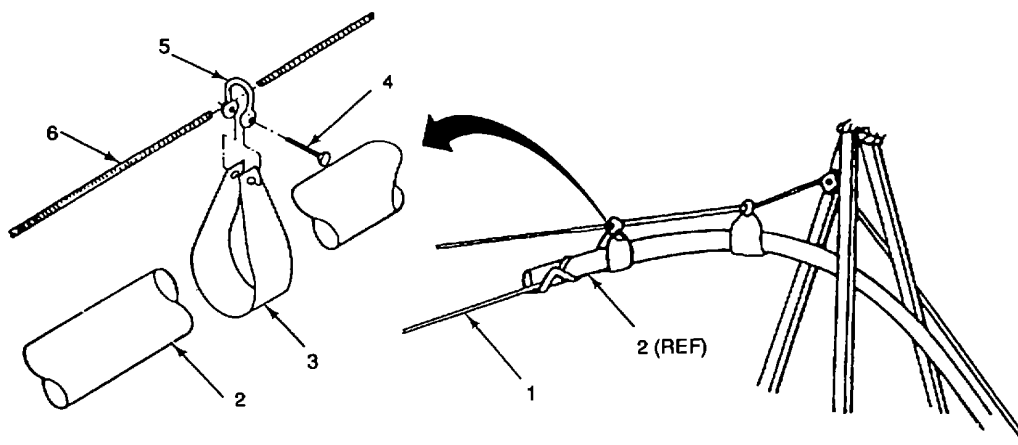

Figure 2-12. Installing Saddle on Hoseline
- (13) Attach one tumbuckle hook (7) to loop in wire rope. Attach other tumbuckle hook (8) to stake (9).
- (14) Repeat steps (6) through (13) with opposite end of wire rope.
- (15) Using turnbuckles, adjust sag in wire rope (with no load) until rope is taut.
- (16) Tie manila rope (1, Figure 2-12) to leading end of hoseline (2). Make sure rope is long enough to cross span.